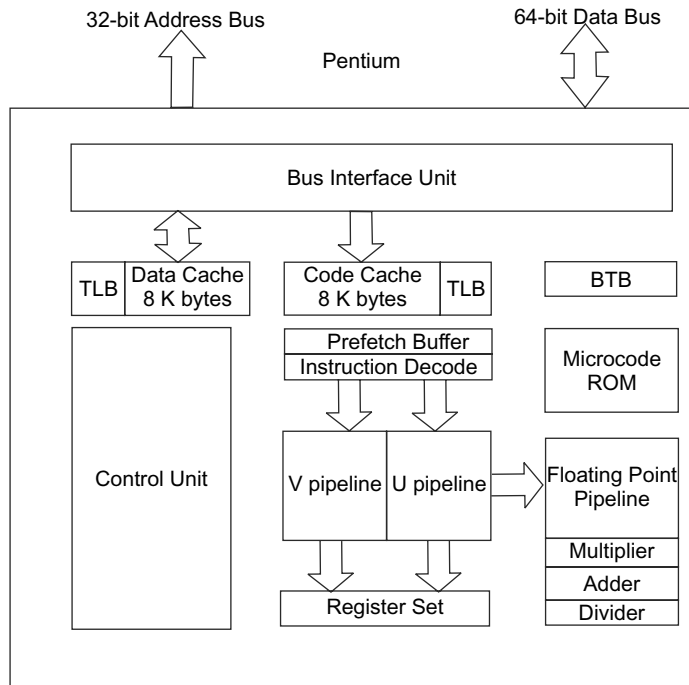

Fig. 12.1 Block diagram of Pentium architecture
The Pentium is a 32-bit processor, but it has a 32-bit address bus and a 64-bit data bus. This processor's data bus serves the on-chip caches, but not the 32-bit registers. The internal and external data buses are connected through the caches. Figure 12.1 shows the internal architecture of the Pentium processor which consists of 8K byte code cache, 8K byte data cache, Translation Look-aside Buffer (TLB), Branch Trace Buffer (BTB), Integer pipelines U and V, floating-point pipeline, Microcode ROM, and Control Unit (CU).